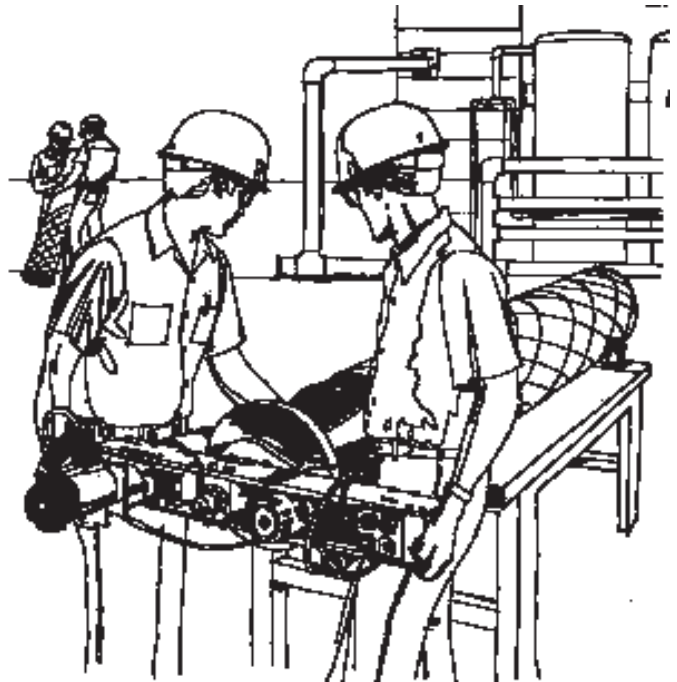

Figure 2
3. A torque-arm to prevent the tool from rotating (a piece of 1" pipe and a stand or block—see Fig. 2).